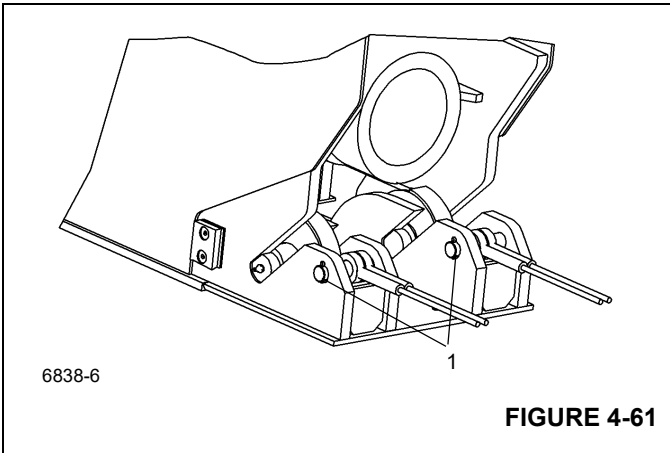

FIGURE 4-61
- a. Lubricate and install the pin through the cable ends. Secure the pin (1), (Figure 4-61) with the cotter pins.